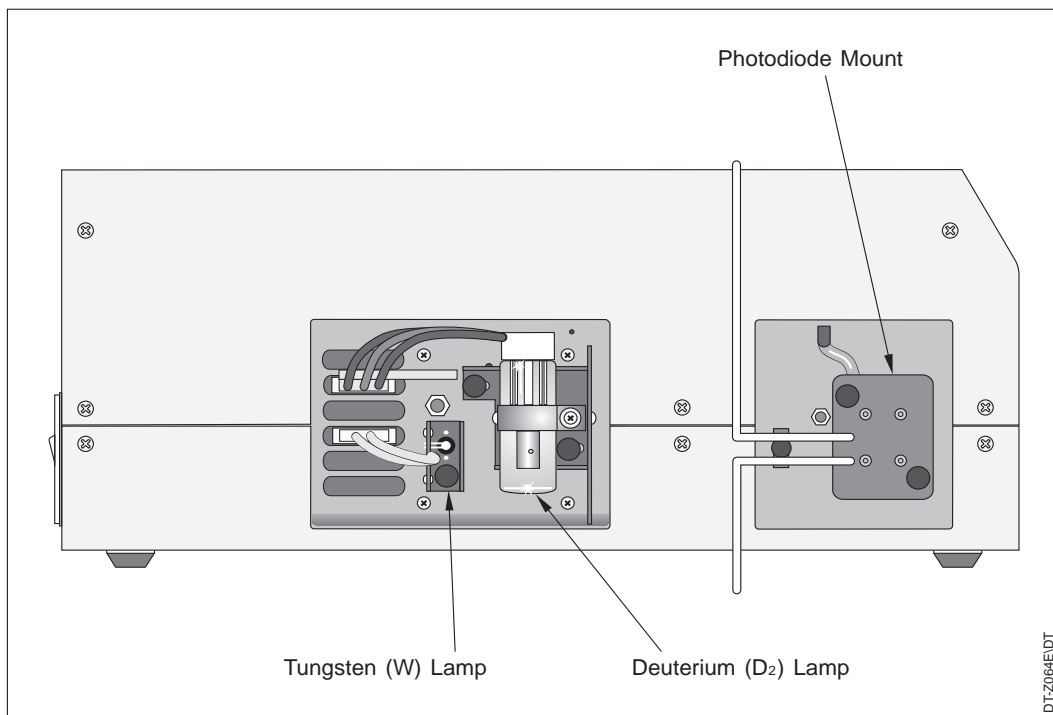

Figure 14 Removing the Lamp and Flowcell Housings to Expose the Lamp, the Flowcell, and the Photodiode Mount
4. Remove the two thumbscrews from the photodiode mount and carefully put the mount straight back. The cable that connects the photodiode mount to the detector is sufficiently long to allow the mount to be positioned out of the way (Figure 14).